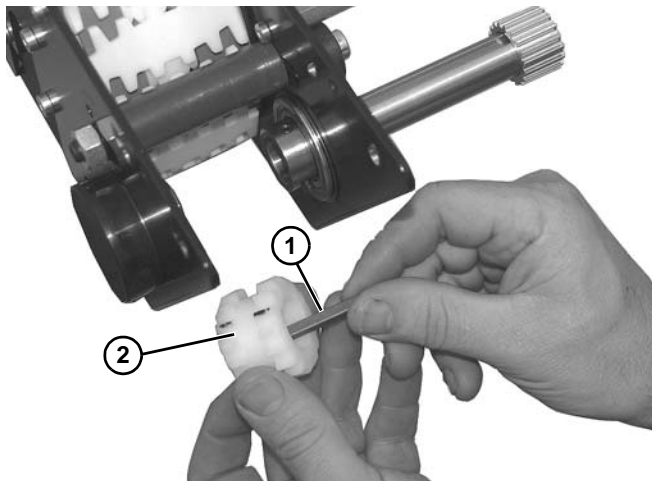

Figure 153
17. Remove key (Figure 153, item 1) from sprocket (Figure 153, item 2).